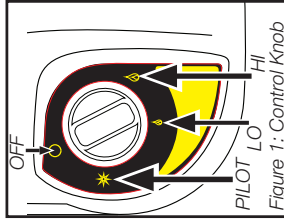
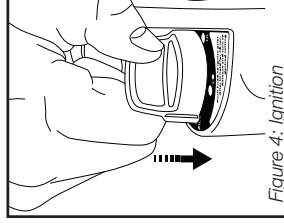

Figure 1: Control Knob
Figure 4: Ignition
- Make sure four position Control Knob is in "OFF" position ; see Figure 1.
- Turn Control Knob counterclockwise to "PILOT" position  and depress to light; see Figure 1 and Figure 4.
- After burner tile has turned bright orange, adjust heat output by turning Control Knob to desired position ("LO"  or "HI"  setting) Figure 1.